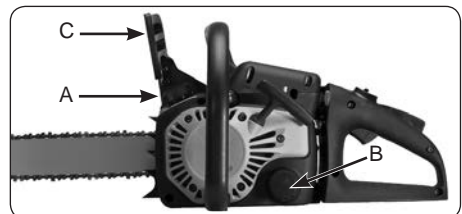

Fig. 8
1. Fill the fuel tank (A) with correct fuel mixture (Fig. 8).
2. Fill the oil tank (B) with correct chain and bar oil (Fig. 8).
3. Ensure the chain brake is disengaged (C) before starting unit (Fig. 8).